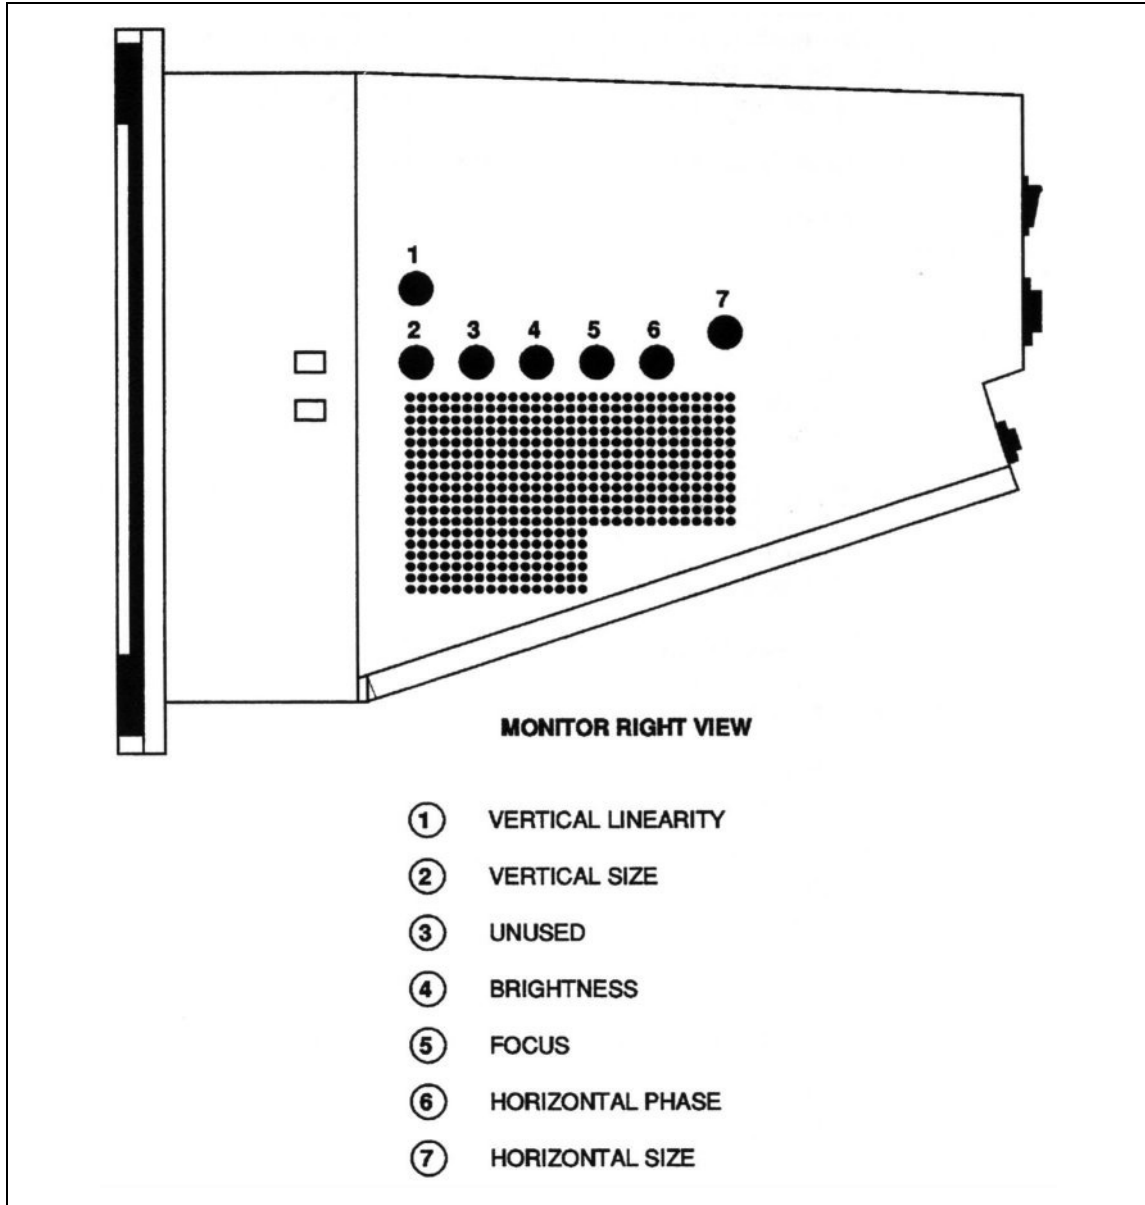

Figure 4-7. External Display Adjustment Locations
The first six of these controls can be adjusted externally through holes in the monitor chassis (shown in Figure 4-7). Adjusting horizontal size requires hex adjustment tool (P/N 572321). Contrast is an external operator adjustment. Adjusting all other controls requires the use of an adjustment tool (P/N 800540).
1. If necessary, remove the monitor cover. Then, locate the external display adjustment holes. See Figure 4-7.
5. Locate the Horizontal Linearity control on the Display PCA (see Figure 4-7.) Adjust Horizontal Linearity so that the left half of the display is the same size as the right half of the display. Since the open chassis cover has a slight effect on Horizontal Linearity, close the chassis cover to verify Horizontal Linearity and keep it closed